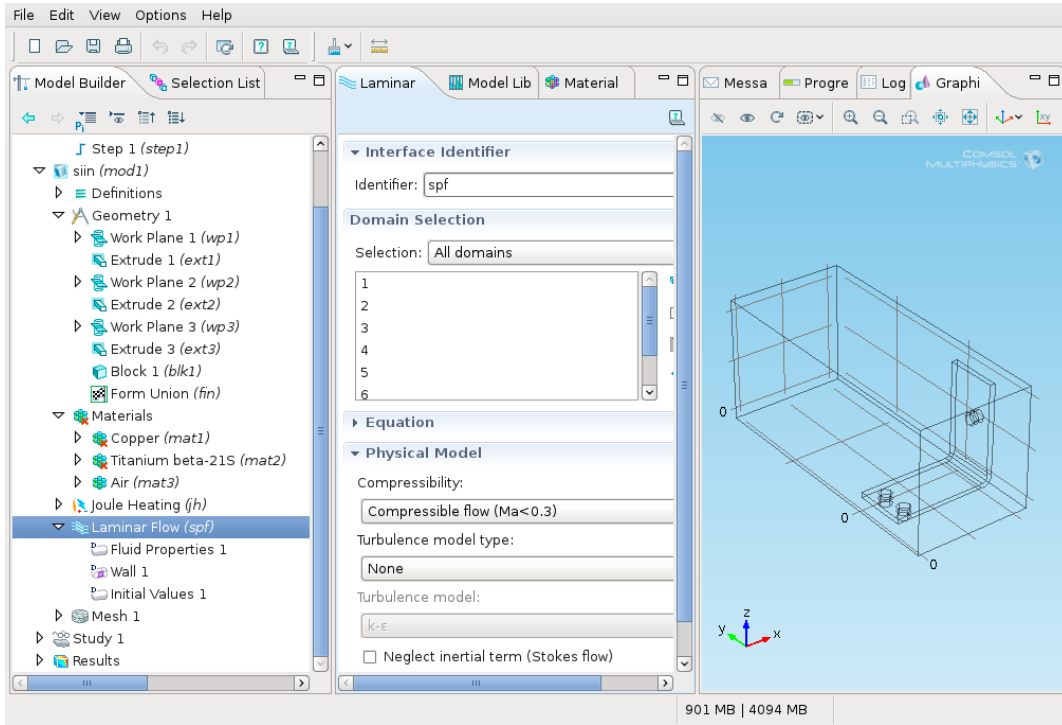

Figure 15: Adding the air flow.
- 2 Click the *Select Boundaries* and then *Wireframe* buttons in the toolbar of the rendering window (Fig. 15).